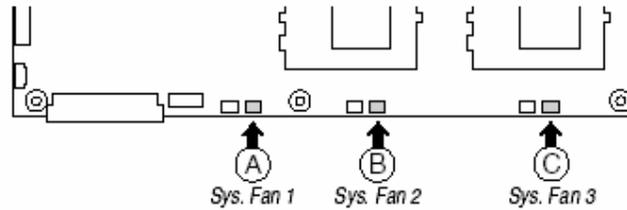

Figure 14: System Fan Connectors
2. Position the fan assembly as shown in Figure 14 and lower it to the chassis floor.
3. While pressing down on the fan assembly, slide it (A) toward the chassis sidewall.
- The latch tab (B) has engaged the chassis slot and locked the fan assembly in place.
5. Connect the fan power cables to the server board at the system fan connectors (Figure 14).